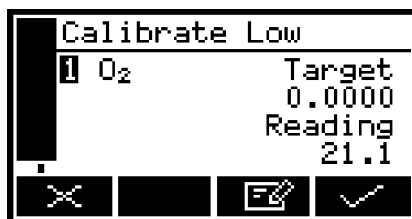

Figure 21 - The Calibrate target value screen
5. Press the  soft key. The Calibrate target value screen will then be shown (see Figure 21), identifying the target value and the current reading.
- + Cross-interference compensation is disabled during calibration, and is not applied to the values shown in Figure 21. All other outputs (that is, serial or milliAmp outputs) remain compensated.